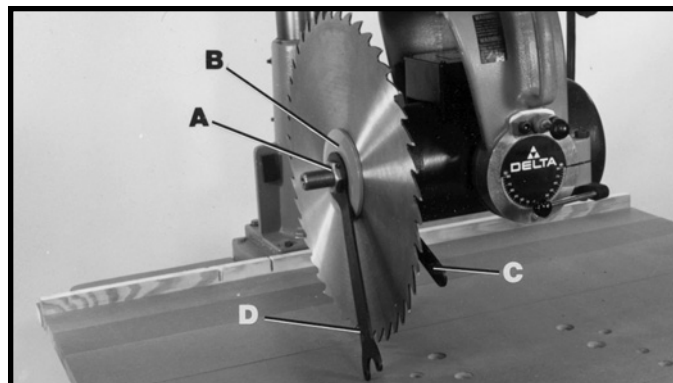

Fig. 23
2. Install blade on the saw arbor with teeth of blade pointing downward when viewed from front of saw, as shown in Fig. 23. Place the recessed end of blade flange (B) Fig. 23, against the blade, and thread the arbor nut (A) onto the arbor.
3. **IMPORTANT:** To prevent arbor nut from spinning when blade stops, place the 1-1/16" wrench (C) Fig. 23 on flats of arbor and firmly tighten arbor nut (A) with the 1-5/8" box end spanner wrench (D) (left handed thread). Firmly tighten set screw (E).